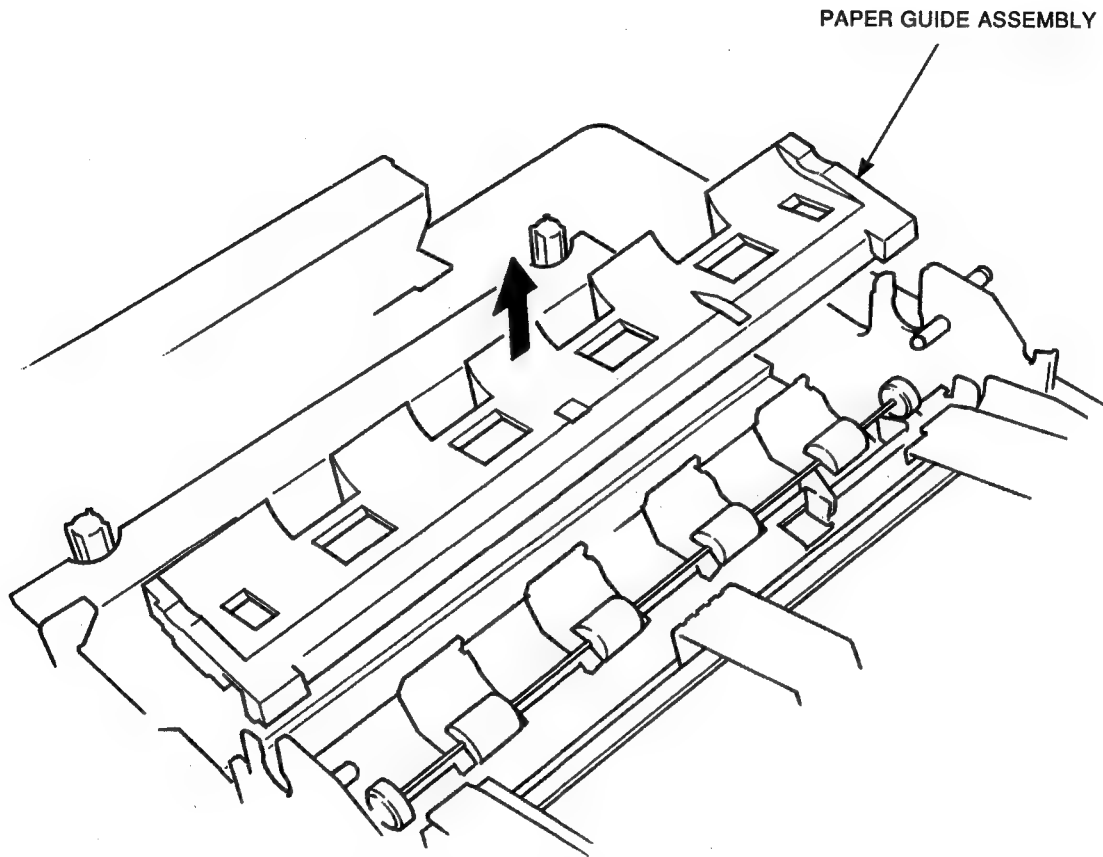

Figure 3-37 Paper Guide Assembly
1. Lift up the front side off the paper guide and remove it from the printer (see Figure 3-37).